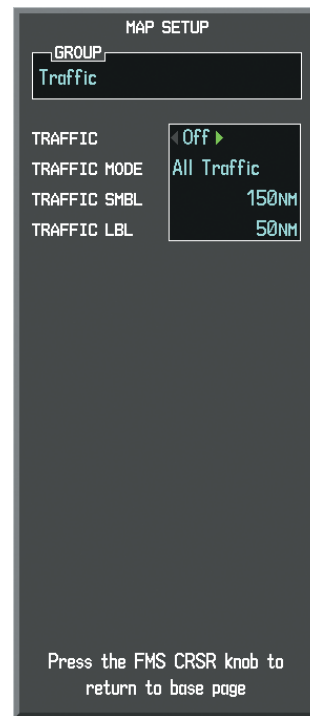

Figure 6-109 Navigation Map Page Setup Menu, Traffic Group
- 5) Turn the large **FMS** Knob or press the **ENT** Key to scroll through the selections (Figure 6-109).